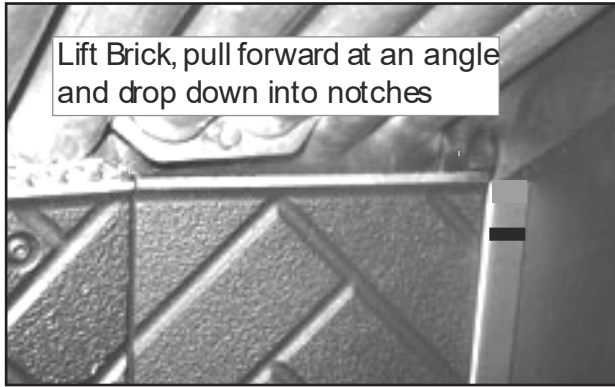

Figure 29.3
3. Pull the right edge of the brick forward and slide the brick into the notches both top and bottom of right bracket (**Figure 29.3**).